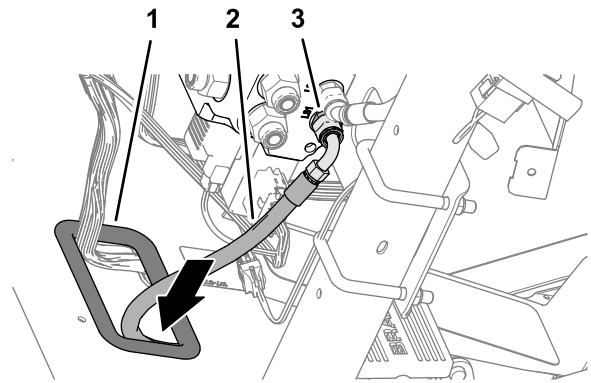

**Figure 114**
1. Assemble the 45° fitting of the hose 6 x 203 mm (1/4 x 8 inches) onto the port LS2 fitting of the EHI steering valve (Figure 114).
2. Assemble the straight fitting of the hose 6 x 203 mm (1/4 x 8 inches) onto the port E fitting of the steering valve, and tighten both hose fittings (Figure 114).